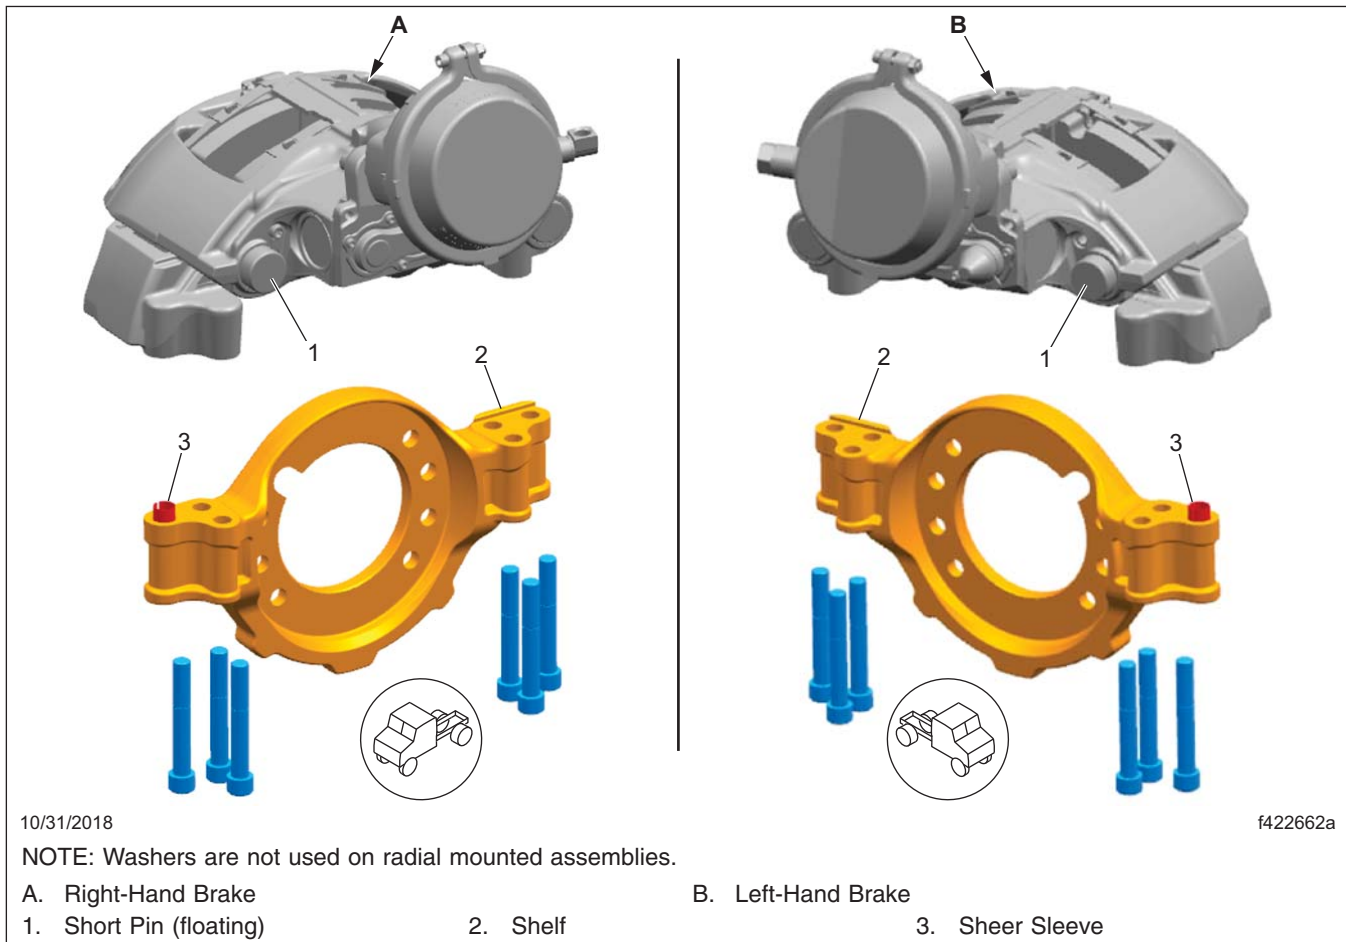

Fig. 4, Bendix Radial Mounted Caliper
9. Align each caliper/carrier assembly with the rotor by pushing the fixed pin side of the caliper against the shelf on the torque plate, then install the caliper/carrier assembly using new caliper mounting bolts. See **Fig. 4**.